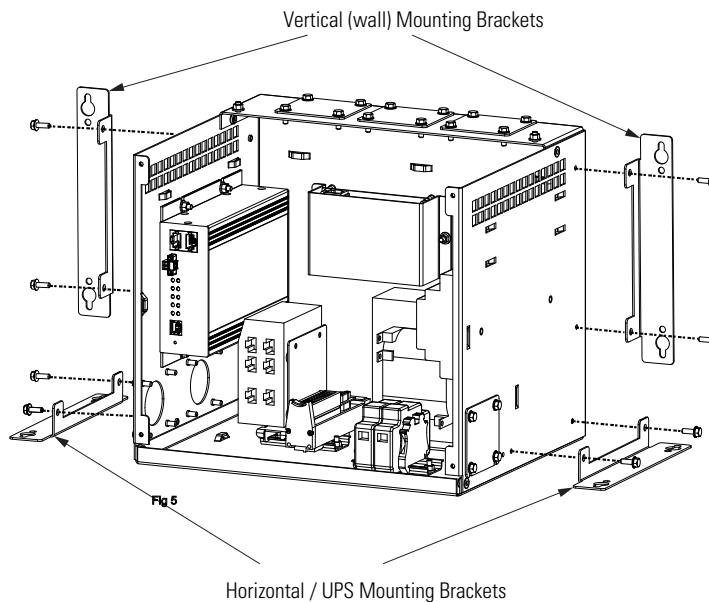

Figure 5. Mounting Bracket Installation
3. Install the supplied mounting brackets on the controller for the desired mounting location (see Figure 5):